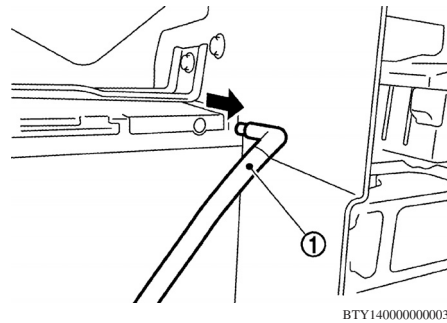

Fig. 1 Battery vent tube removal
2. Remove battery vent tube (1), **Fig. 1**.
7. Remove battery fix frame (1) mounting